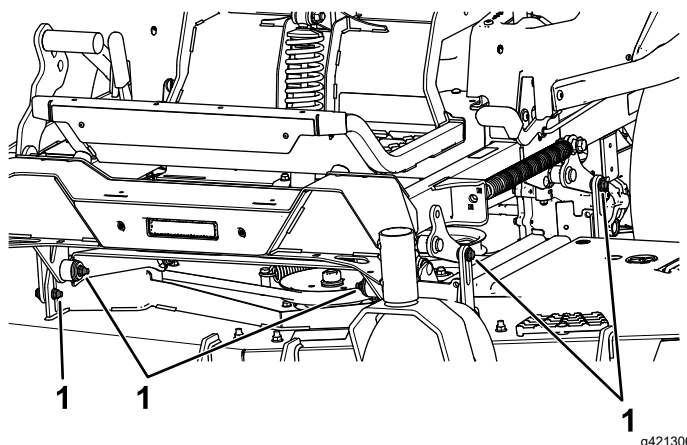

Figure 93
7. Remove and retain the bolts and nuts on both sides of the machine (Figure 93).